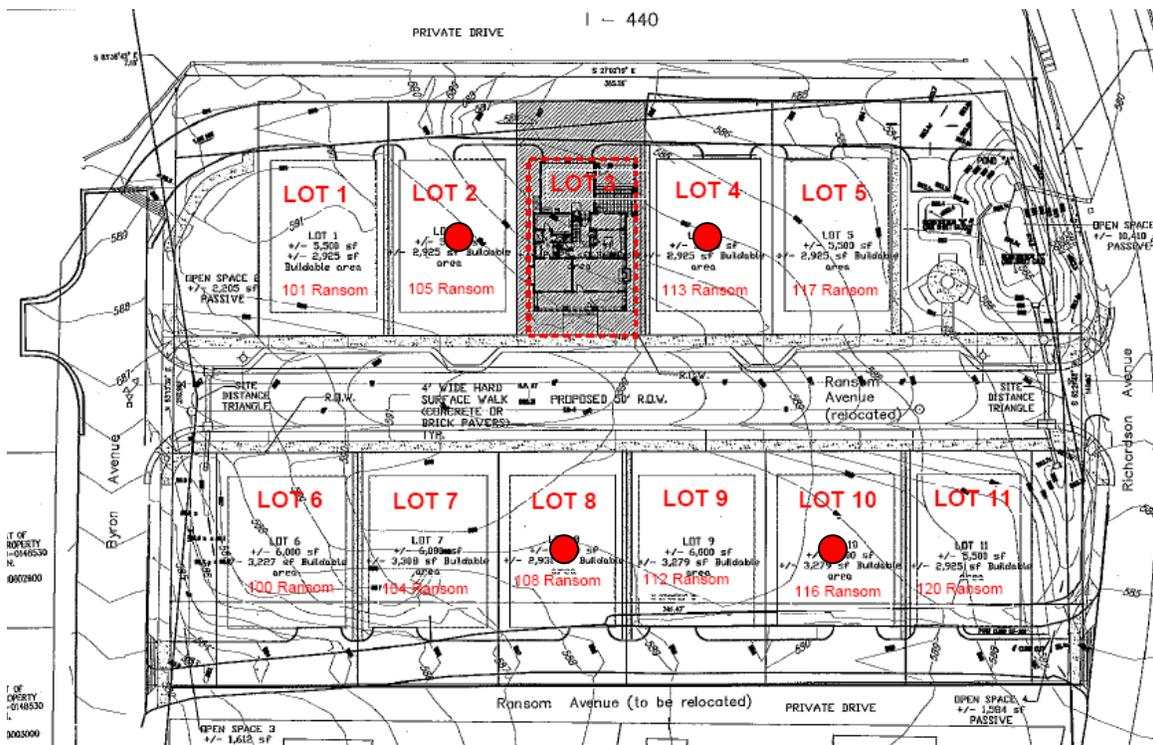

Figure 1. Site map.
**Background:** Byron Close is an 11 unit residential SP development (BL2008-149) located on the previous site of Ransom School, close to I-440 and West End Avenue. The applicant now proposes design for infill construction of four of the eleven lots (Figure 1). The application is to construct new infill on Lots 2, 4, 8, and 10 (or 105, 113, 108, and 116 Ransom Avenue). The house on Lot 3 has already been approved and constructed. MHZC approved designs for houses on Lots 6 and 8 in 2014, but they have not been constructed. The design for Lot 8 that is part of this application is different than the design approved for the lot in 2014.